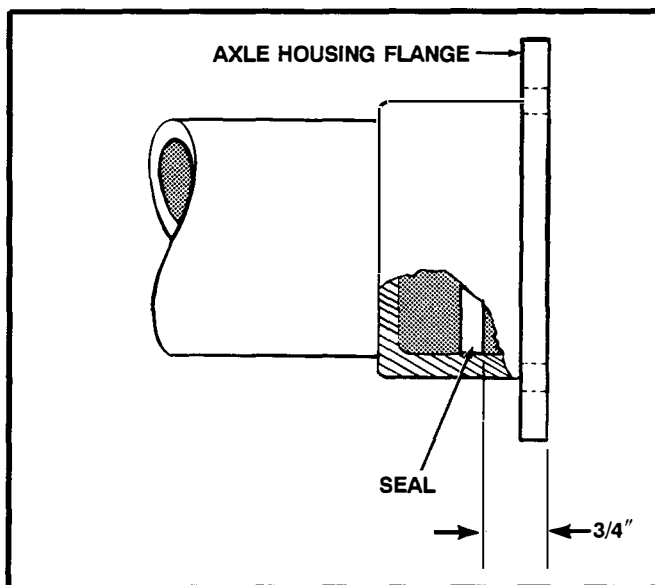

Figure 17.
1. Lubricate and install new inner oil seals to a depth of 3/4". See Figure 17.